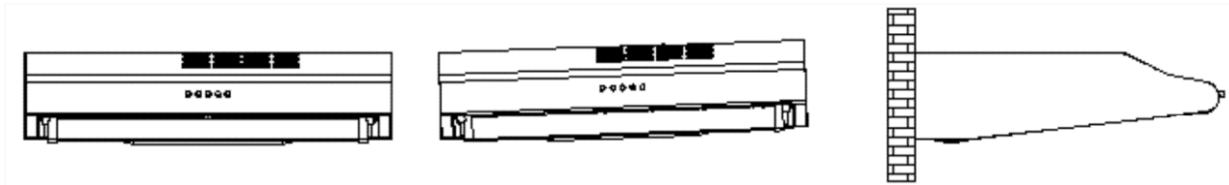

Figure 5
- ◆ The body should be observed after the installation level and avoid the skew, shown in Fig. 5.